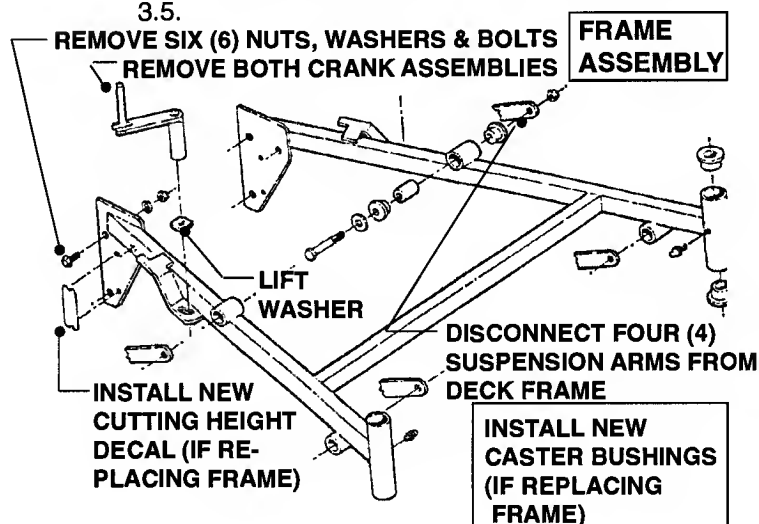

FIGURE 3.5
C. Separate the deck from the Power Unit by removing the six (6) nuts, washers and bolts. See Figure 3.5.
E. Disconnect the four (4) suspension arms from the deck frame. Remove both bushings and sleeve from each connection to the frame. Refer to Figure 3.5.
- Loosely attach the four (4) deck suspension arms to the deck frame using the sleeves, bushings and mounting hardware previously removed. Refer to Figure 3.5.